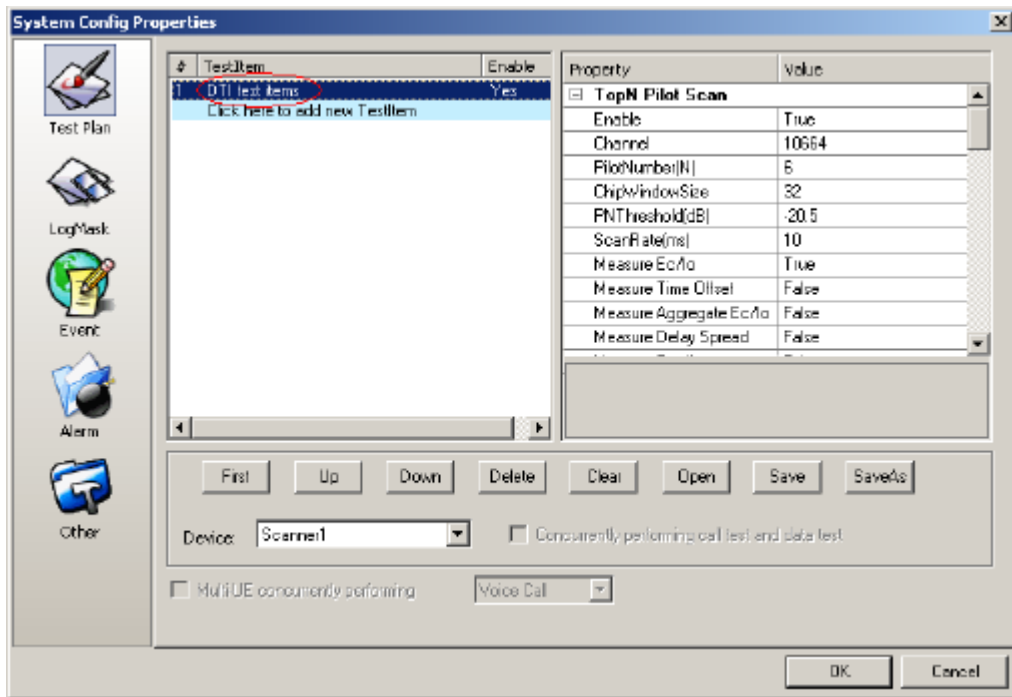

Figure 10-3 Selecting test items
- 2) Click the test item row and choose the items for the DTI Scanner, as shown in Figure 10-3.